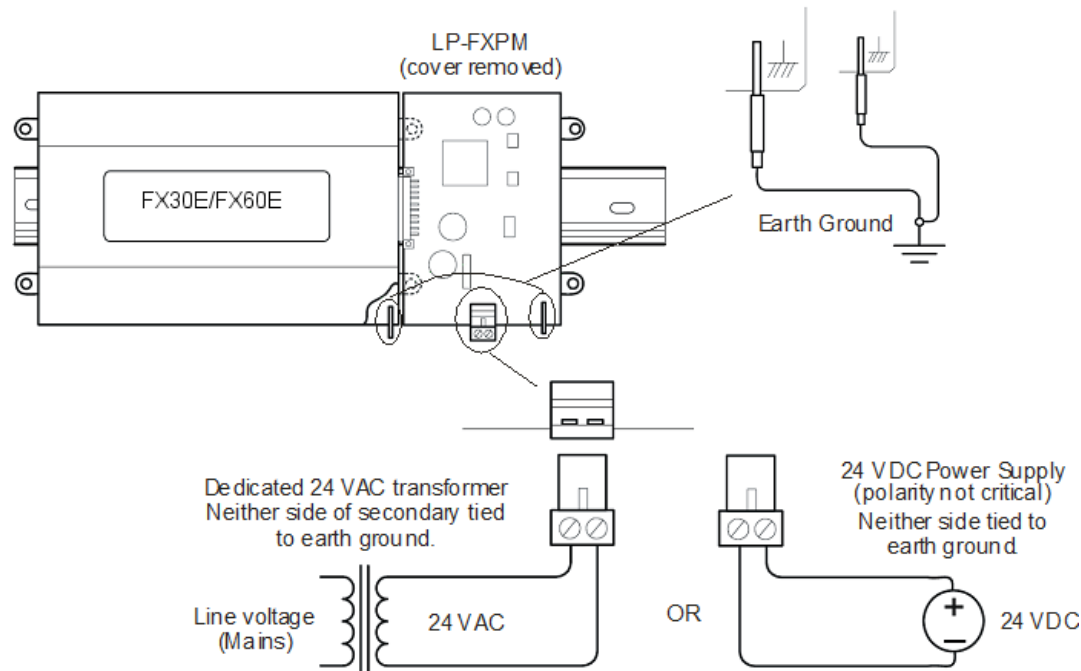

Figure 8: LP-FXPM Power Module Wiring Connections
See Figure 8 to locate connectors and other components on the FX30E/FX60E.
Located at the bottom of the power module are a 2-position power connector and an earth ground spade lug (Figure 8). Connect the supplied earth ground wire to a nearby earth ground point. Unplug the power connector plug from the module and make connections to it as shown in Figure 8.
3. Connect the supplied earth grounding wire to a nearby grounding point (Figure 8).